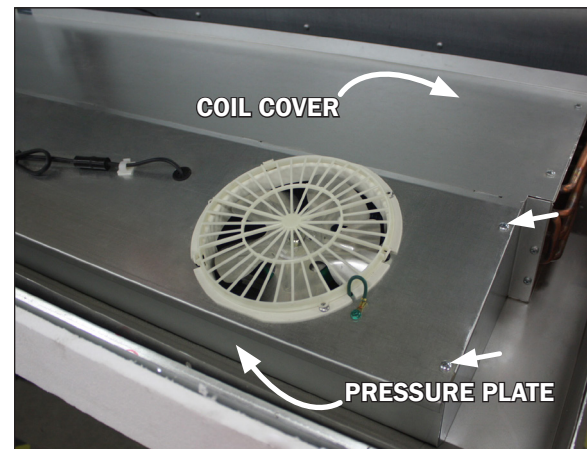
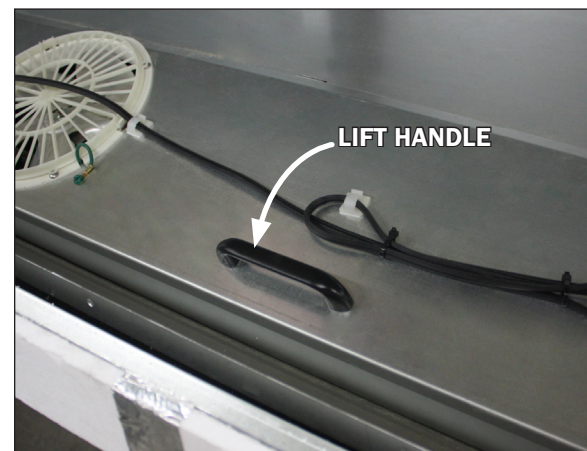
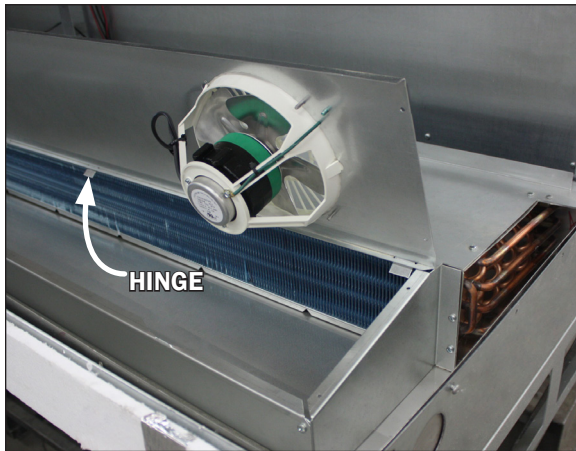
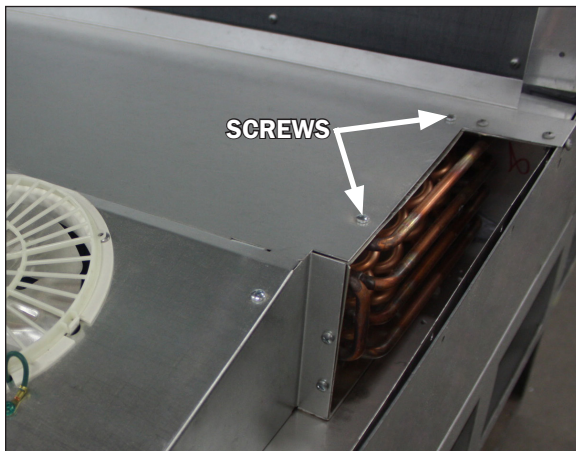

Fig. 13 Pressure plate, screw locations and coil cover (topside)
Fig. 14 Pressure plate lift handle
Fig. 15 Pressure plate and hinges (underside)
Fig. 16 Coil cover removal
- To access the underside of the fans first remove the screws on the top ends and front sill of the pressure plate cover (Fig. 13). Lift the pressure plate by use of the provided lift handles (Fig. 14). There are hinges shared between the pressure plate and coil covers. **Note: It is recommended that more than one person lift the pressure plate.** The topside of pressure plate will rest against the topside of the coil cover, exposing the underside of the pressure plate and fans (Fig. 15).
2. Remove the top two screws at both ends of the coil cover (Fig. 16), as well as the screws from the top ends and front sill of the pressure plate cover (Fig. 13). **Be sure to save the removed screws for reassembly.**